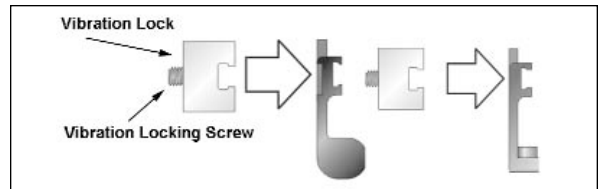

Figure 22. Vibration Locking Screw
4. Tighten the locking screw to secure switch mechanism (optional). See Figure 22.